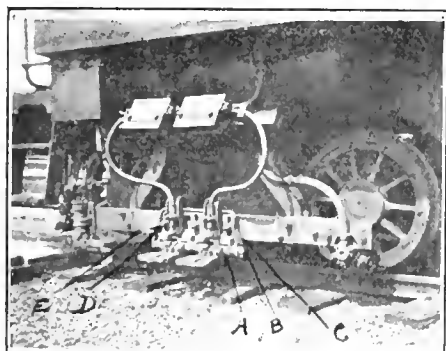

FIG. 3.
A.—Referring to Fig. 3, spiral springs (A) are used, through which passes the bar (B), this bar being held in the casting (C).
A.—In the type of third rail shoe construction shown by Fig. 3 an adjustment is provided so that by loosening the bolts (D), of which there are three, the casting can be raised or lowered, giving the necessary adjustment.
A.—No. Many times there are no adjustments in the casting (C) referred to, but the adjustment is taken care of by adjustment in the support which carries the third rail shoe beam.
A.—The third rail shoe beam is shown by (E) on Fig. 3, and is the beam to which is fastened the casting carrying the third rail shoes.
A.—Beams must be mounted on brackets, which are carried on a truck member which is stationary, or directly on to the journal boxes on locomotives which are constructed differently from those shown in Fig. 3, so as to keep the shoe beam at a constant distance above the rail. The shoe beam should not be hung from any part of the locomotive which is liable to variation in distance from the rail on account of spring variation.
Q.—Fig. 3 shows two fuse-boxes mounted on the truck. What is the object of more than one fuse-box?